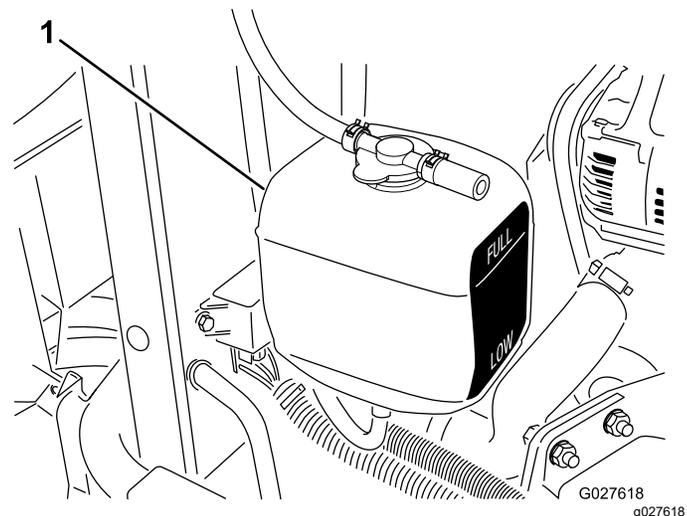

Figure 77
3. Check the coolant level in the expansion tank (Figure 77).